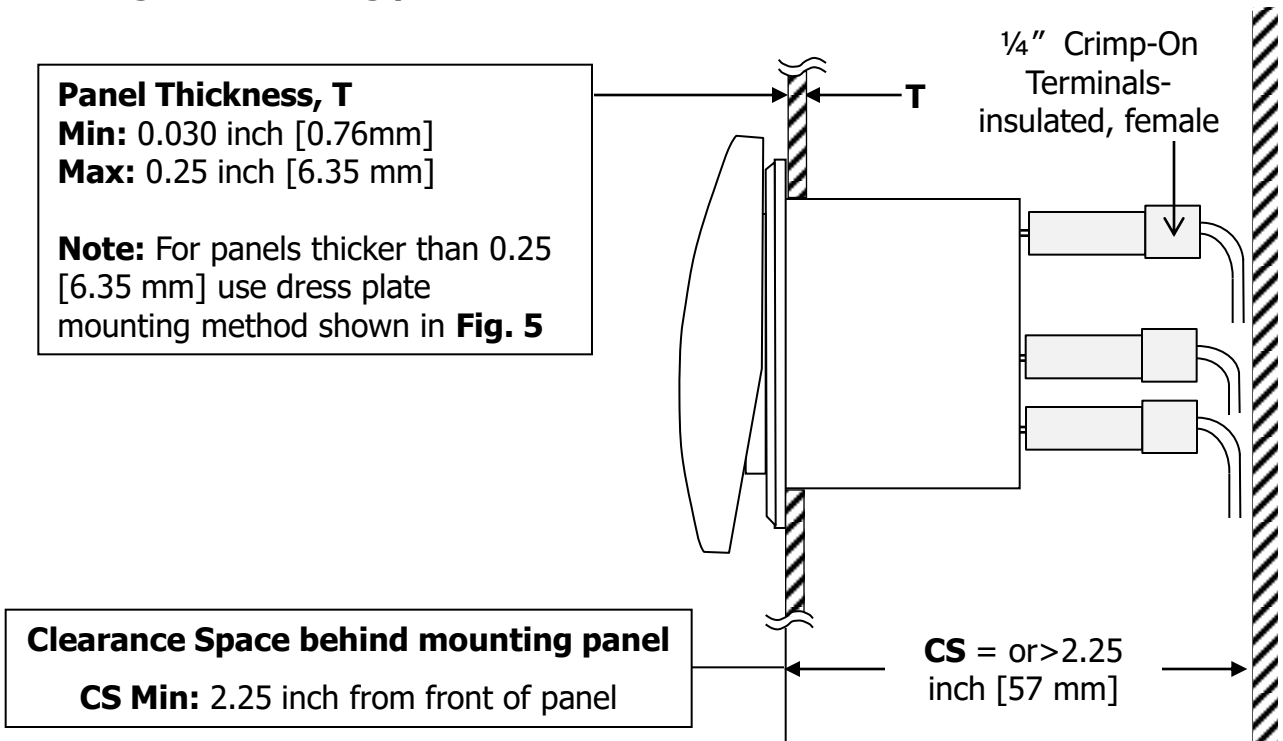

Fig 2.
1.2 Fig. 2 – Mounting panel thickness and rear clearance